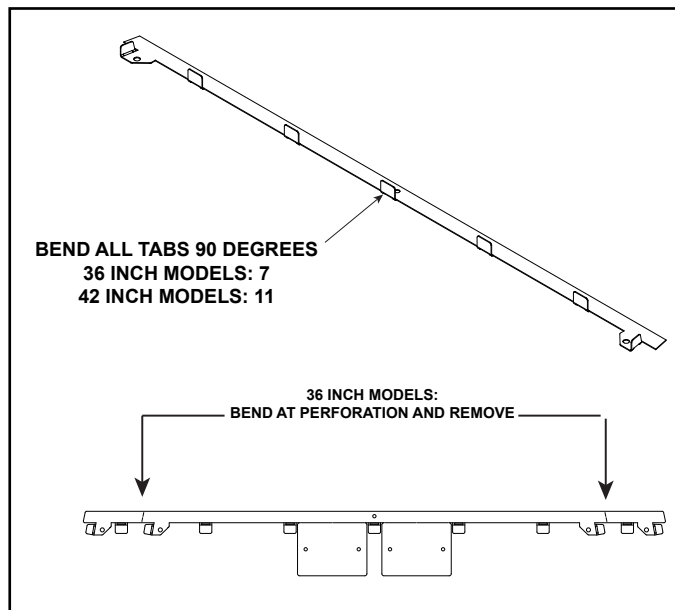

Figure 2 Back Refractory Support
- (1) Back Refractory Support (See Figure 2)
4. Bend all tabs on back refractory support as shown in Figure 2.